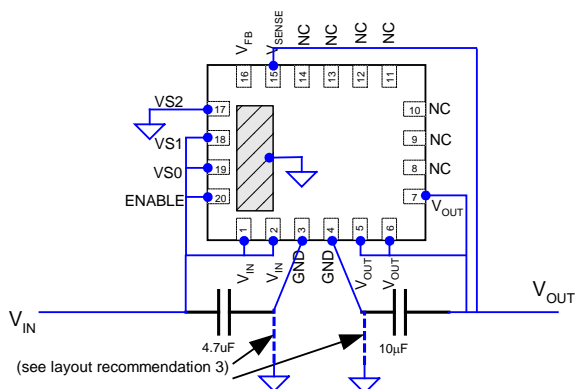
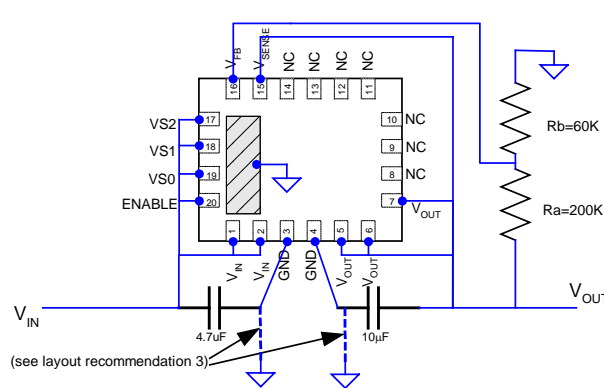

Figure 6. Example application,  $V_{out}=1.5V$ .
Figure 7. Example Application, external divider,  $V_{out} = 2.6V$ .
**Recommendation 3:** Multiple small vias (0.25mm after copper plating) should be used to connect ground terminals of the Input capacitor and the output capacitor to the system ground plane. This provides a low inductance path for the high-frequency AC currents; thereby reducing ripple and suppressing EMI (see Fig. 6, Fig. 7, and Fig. 8).
Figure 6 shows an example schematic for the EN5311QI using the internal voltage select. In this example, the device is set to a VOUT of 1.5V ( $VS_2=0$ ,  $VS_1=1$ ,  $VS_0=1$ ).
Figure 7 shows an example schematic using an external voltage divider.  $VS_0=VS_1=VS_2=“1”$ . The resistor values are chosen to give an output voltage of 2.6V.